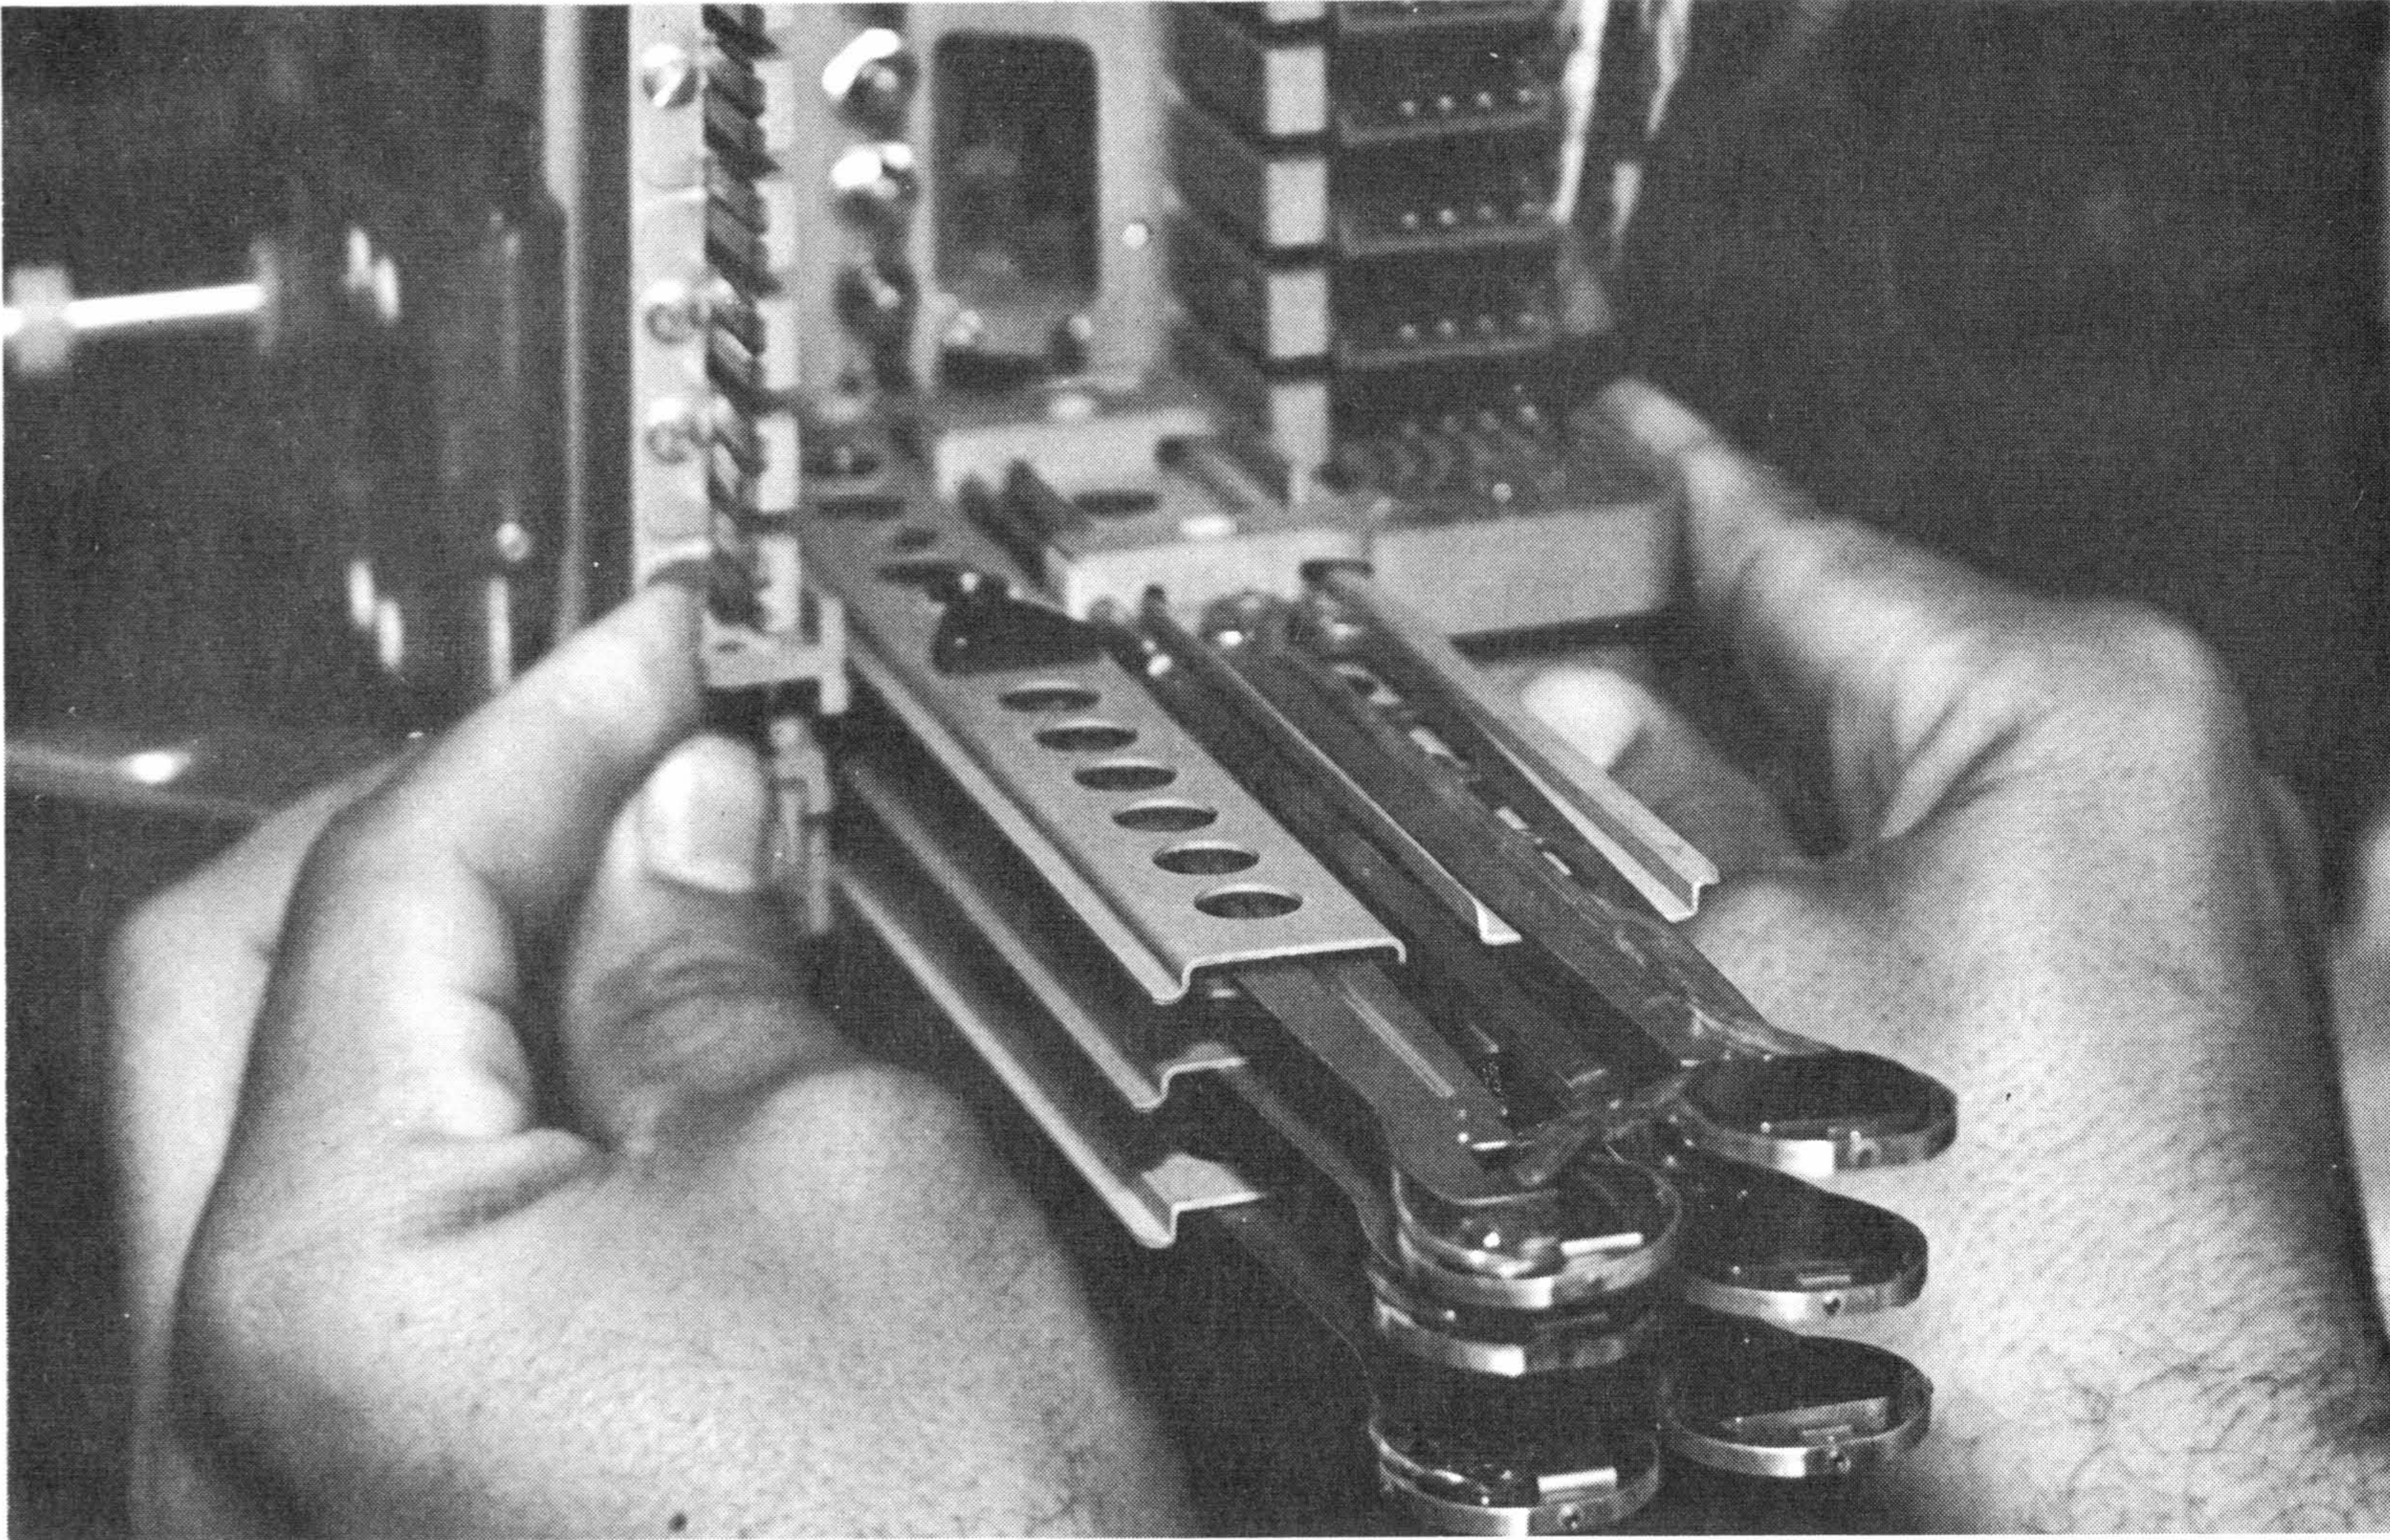

Figure 2-26. Drawer Removal
4. Remove drawer by applying a clamping force with index fingers and pushing on adjacent drawers with thumbs (Figure 2-26). Drawer assemblies must be handled with care. Never handle assembly by stiffeners or arms.